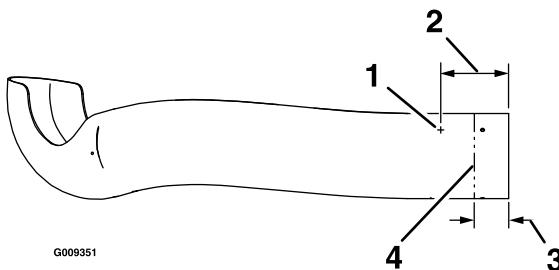

Figure 26
- A. Locate the three holes in the upper tube. Measure 6 1/2 inches (16.5 cm) up from the end of the tube and mark the location in all three areas (see Figure 26).